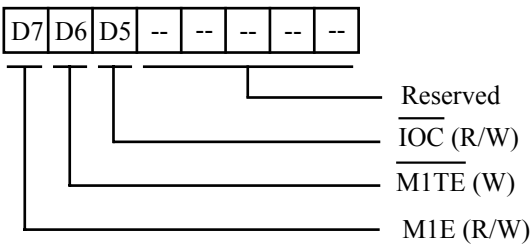

Figure 8. Operating Control Register
**Z80 versus 64180 Compatibility.** The Z8S180/Z8L180 is descended from two different “ancestor” processors, ZiLOG's original Z80 and the Hitachi 64180. The Operating Mode Control Register (OMCR), shown in Figure 8, can be programmed to select between certain Z80 and 64180 differences.